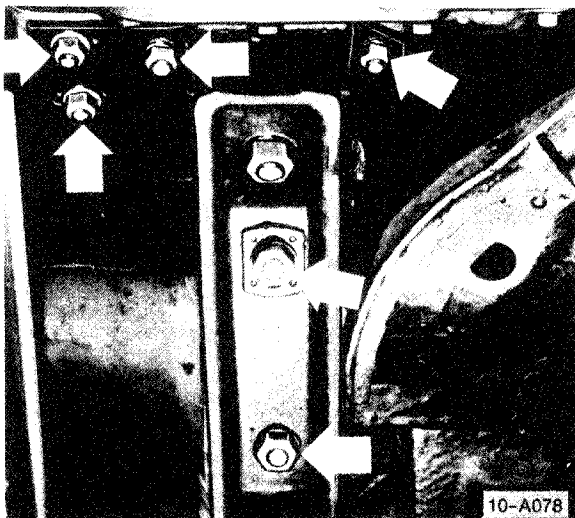

Fig. 5-3. Nuts (arrows) to be removed to remove rear transaxle mount.
23. Remove the rear transaxle mount as shown in Fig. 5-3.